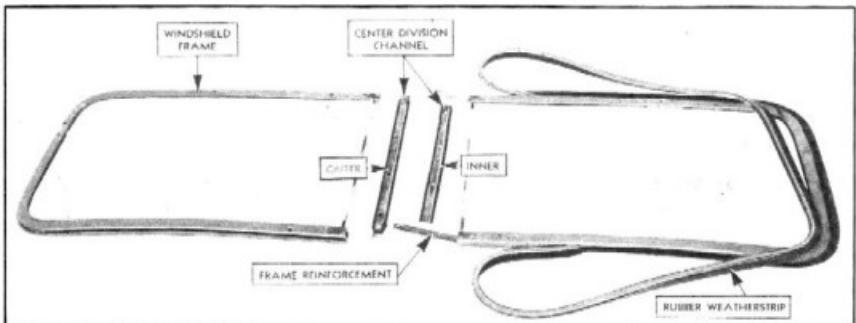

Fig. 3—Showing Windshield Split at Center Reinforcement
- Remove the screws which attach the top and bottom channels to the frame reinforcement on one side of the center division channel. Then pull the two halves of the windshield apart at the center, as shown in Fig. 3.